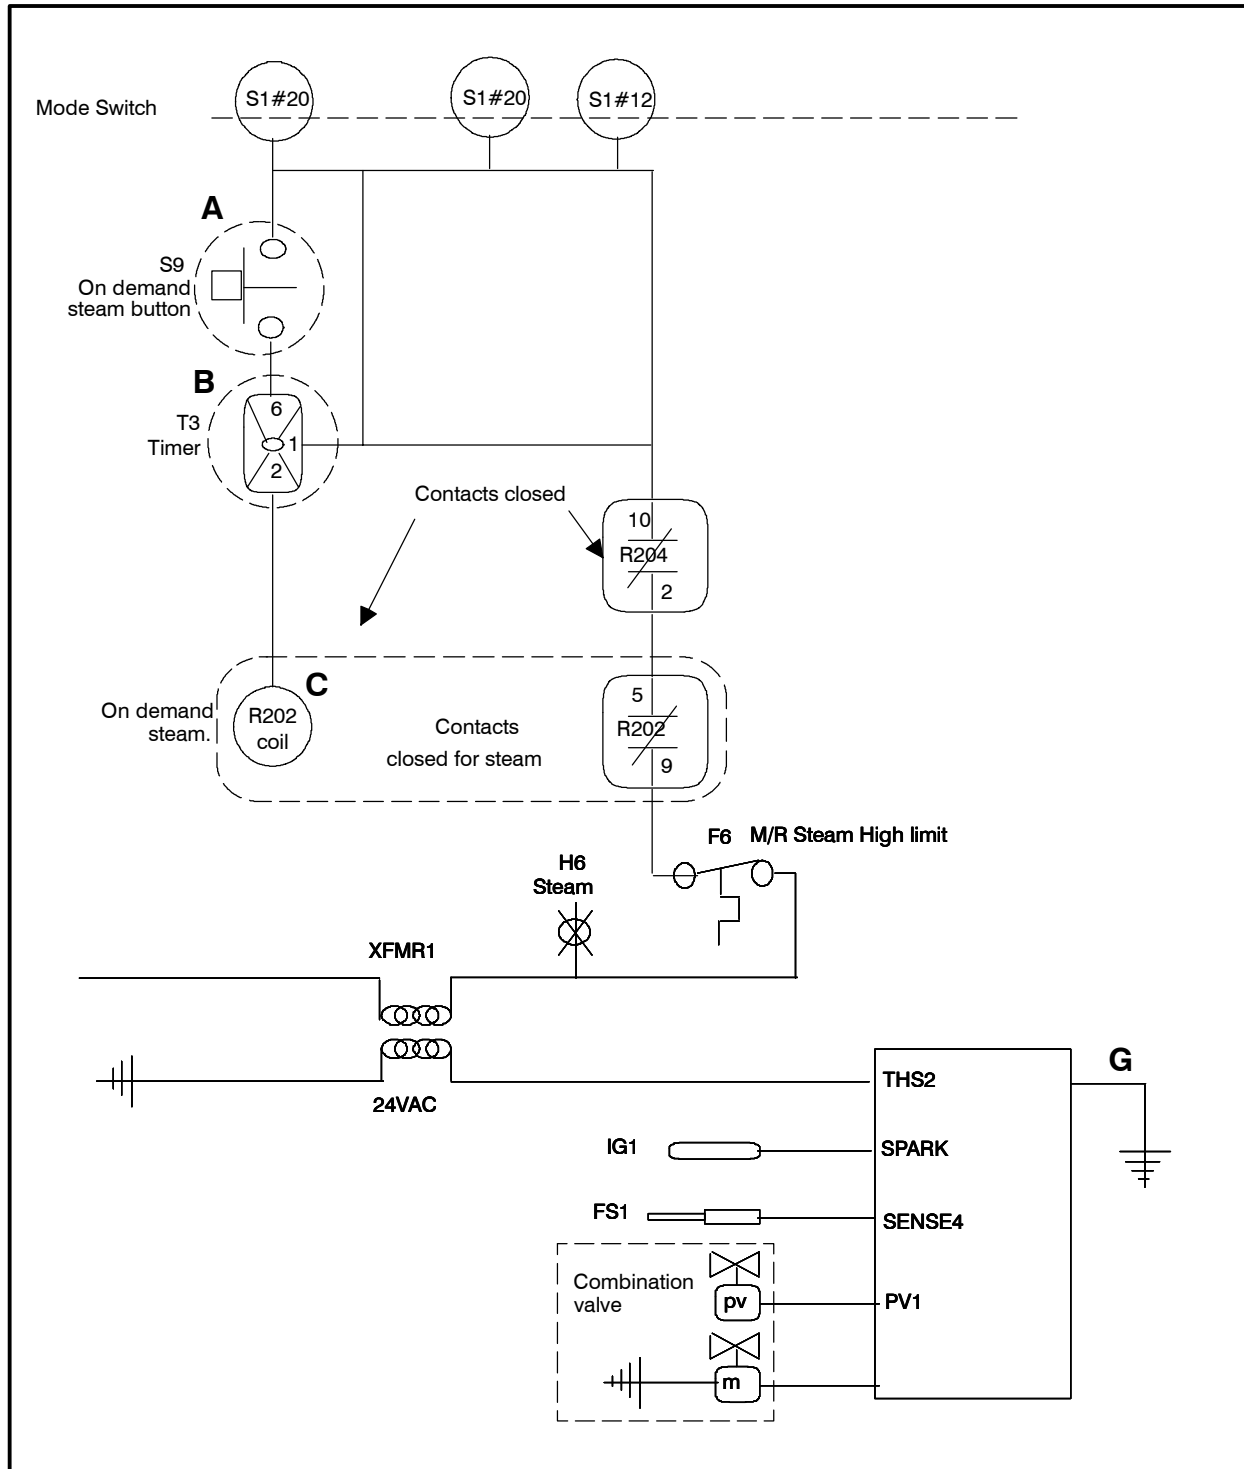

FIGURE 5
1. Check S9 on demand steam button. See FIGURE 5, location (A).
2. Check input and output to T3 solid state timing relay. See FIGURE 5, location (B).
3. Check relay R202 coil and contacts. See FIGURE 5.